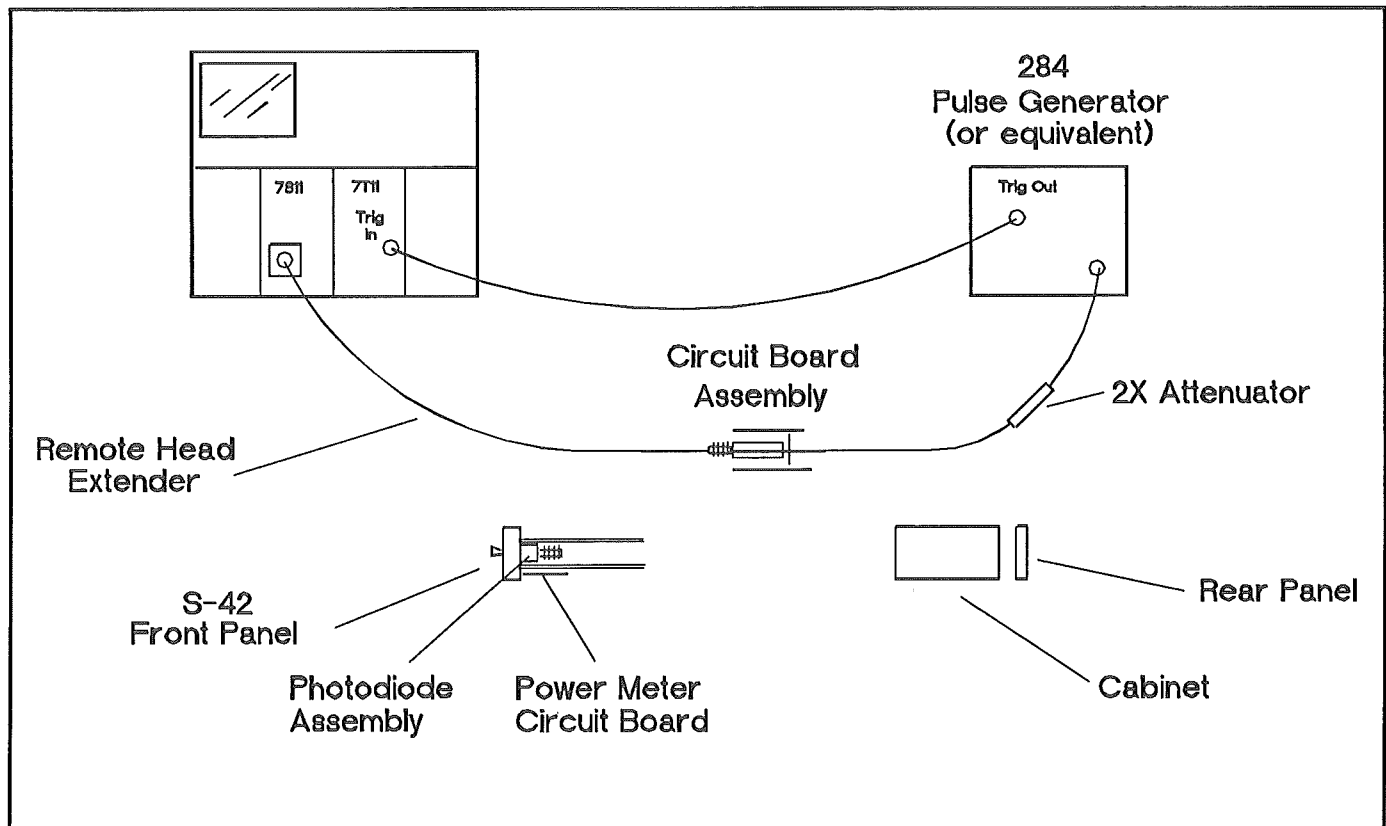

Fig. 4-2. Initial equipment setup.
- a. Assemble the indicator oscilloscope system by placing the Type 7S11 in the right vertical compartment of the indicator oscilloscope and the Type 7T11 in the horizontal compartment. Install an operating sampling head in the Type 7S11 compartment using a remote head extender (see Fig. 4-2).
a. Connect the Type 284 Square Wave Output signal to the electrical sampling assembly as shown in Figure 4-2. Use a 2X GR attenuator at the Type 284 Output connector and a GR to 3 mm adapter to the Type S-42 input connector.